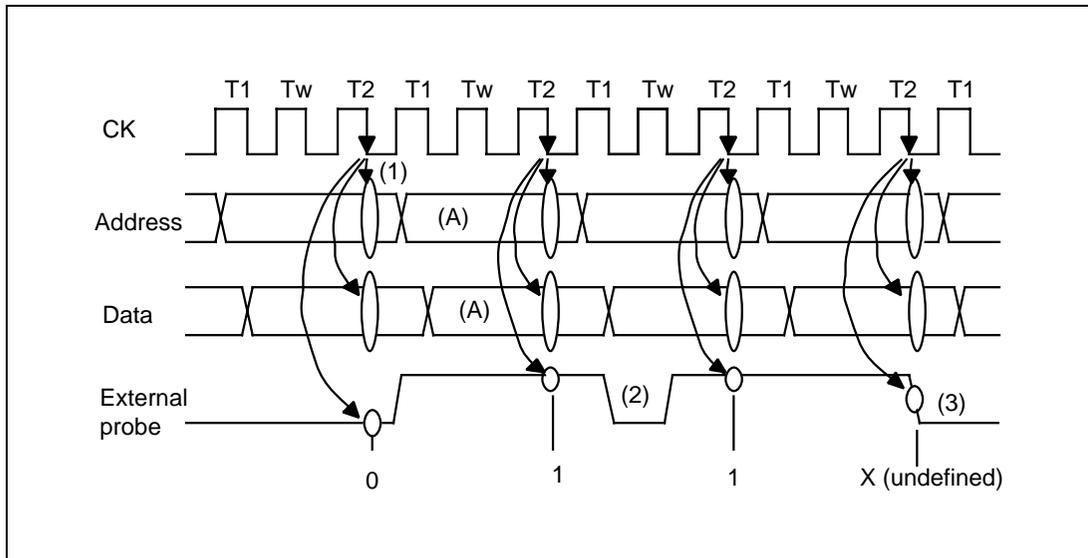

Figure 1.16 External Probe Signal Trace
In each bus cycle, the clock number is the number of clock (CK) cycles between the end of the previous bus cycle and the end of the current bus cycle. Figure 1.16 shows an example of the external probe signal trace.
- Trace information is sampled at falling edges in the T2 cycles of CK (figure 1.16 (1)).
- When the external probe signal changes between samplings, it cannot be reflected in the trace data (figure 1.16 (2)).
- When a sampling edge coincides with a change in the external probe signal, the trace contents are undefined (figure 1.16 (3)).
- Three clock cycles are traced in bus cycle (A).